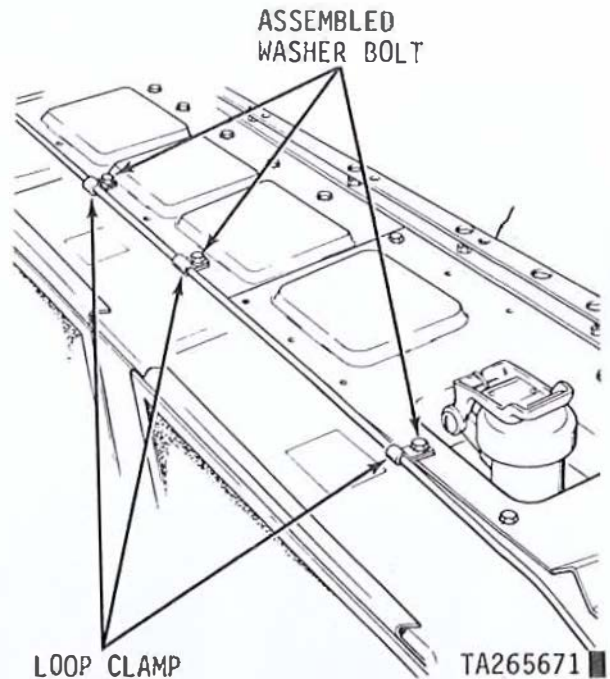

Figure 3-5.3. Removing or installing smoke generating system fuel tube loop clamps.
b. Remove three assembled washer bolts from left upper covers that retain smoke generating fuel tube loop clamps (fig. 3-5.3). On Model